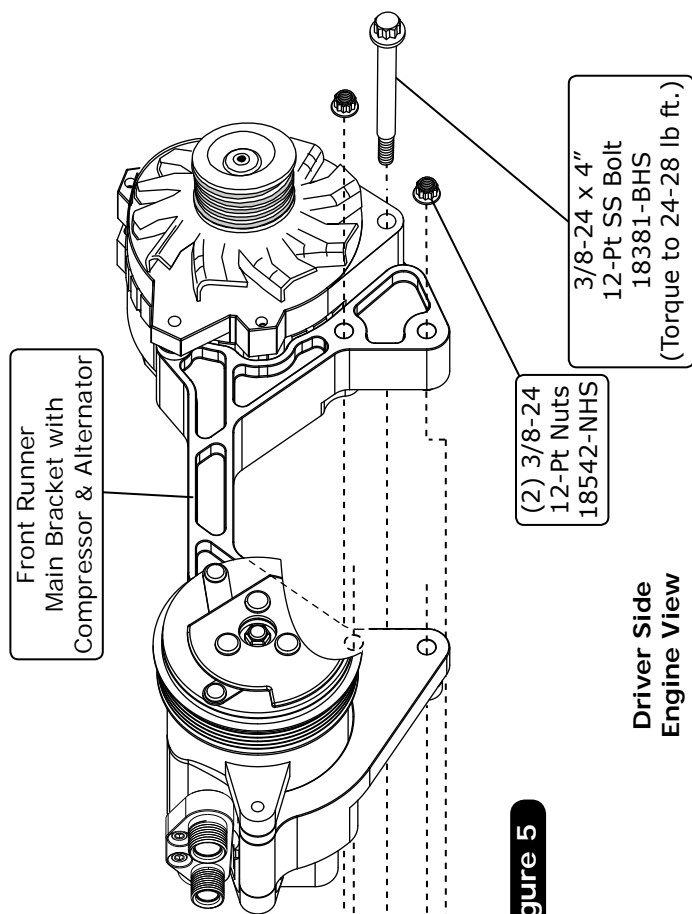

**Figure 4**
1. Install the compressor block onto the compressor using (2) 8mm-1.25 x 20mm socket cap bolts as shown in Figure 4, below. Torque to 18 lb ft. Keep the ports sealed with caps until the A/C circuit has been completed.
2. Install the compressor onto the Front Runner main bracket using (2) .789 OD x .330 ID x .330" L spacers, with (1) between the main bracket and the compressor's upper front mounting tab, and (1) between the main bracket and the compressor's lower front mounting tab. Secure the compressor to the main bracket using (2) 5/16-18 x 4 1/4" 12-Pt SS bolts, (2) 5/16" AN washers and (2) 5/16-18 nyloc nuts (See Figure 4, below). The compressor mounting ears contain sliding bushings that are drawn in and clamp to the bracket when compressed. Torque to 25 lb ft.
3. Install the alternator onto the main bracket using an 8mm-1.25 x 70mm 12-Pt SS bolt (See Figure 4, below). Torque to 24-28 lb ft.